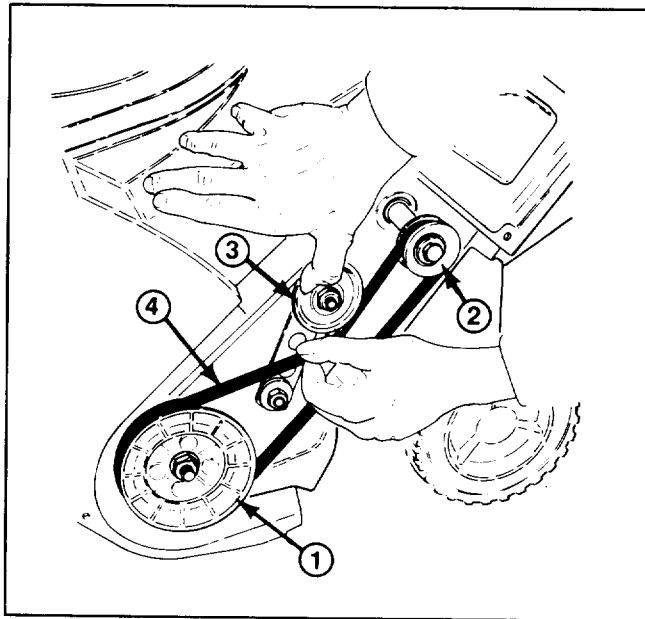

Figure 12
**3. REMOVING BELT** (Fig. 12)—Pull idler pulley up slightly while pulling out on belt. Allow pulley to gradually release when it can move past the belt. Rotate rotor with left hand and work belt off rotor pulley with right hand. Belt then slides easily off drive pulley.